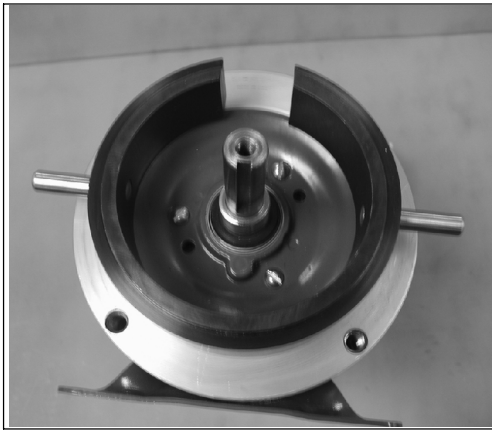

Figure 74 C-Stand Positioning
3. Place C-stand on motor as shown in Figure 74. Place crankcase on top of stand, note proper crankcase orientation to motor.